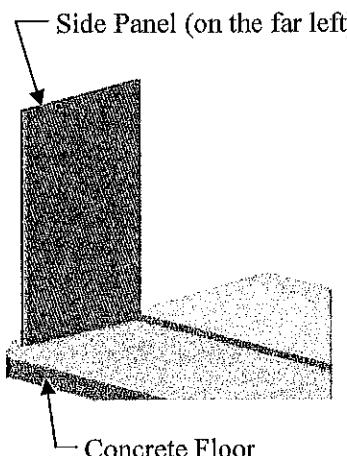
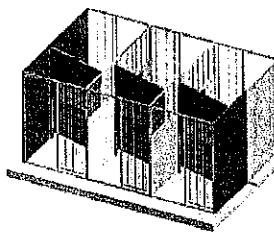

Figure 3
Figure 10
1. Set the first Side Panel (with King Post attached) on the left side of the concrete floor. Be sure the bottom of the panel slopes from the front to back of the Kennel. Have a helper hold it in place (**Figure 3**).
6. Begin assembling the second section of kennels, starting from the left side with a King Post and a Side Panel as shown in the (Figure 10), just like the first row, now follow (Figures 3 thru 8) again to complete the second section.